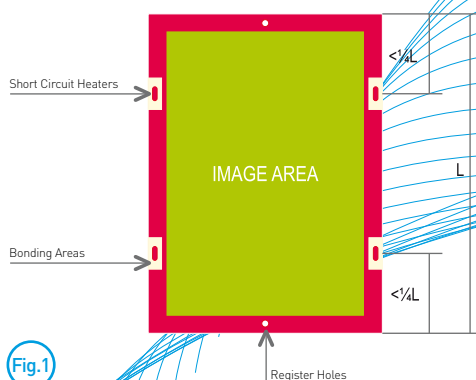

Fig.1
- The inner layers must first be prepared with the corresponding registration holes (See Figure 1). These holes are generally drilled or punched post etch.
- The inner layers must have heating circuits etched in the reserve zones on both top and bottom sides. (See Figure 1&2).